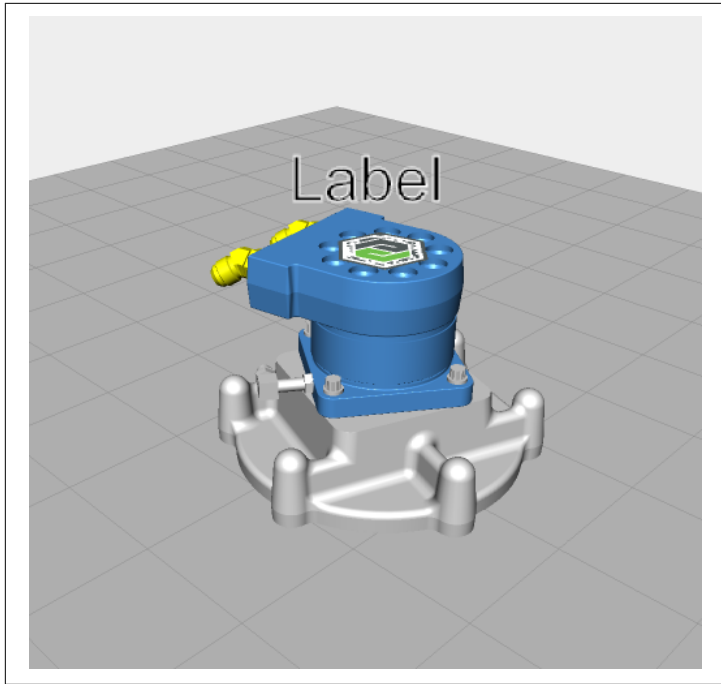

Figure 3-13. Your current canvas
15. At this point, your canvas should look similar to Figure 3-13.